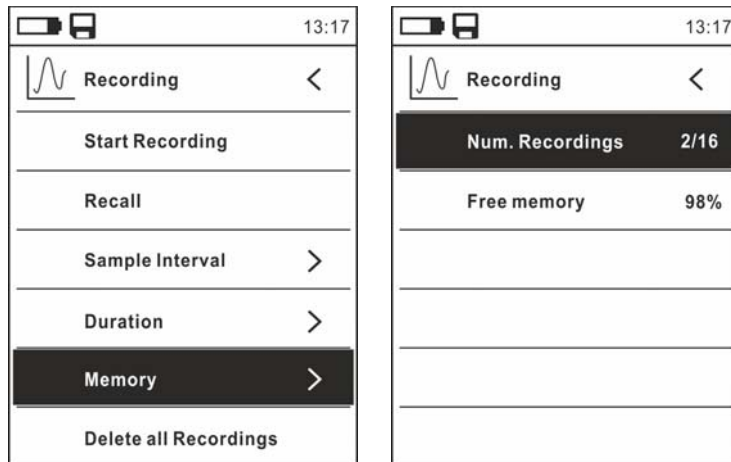

Fig. 37: Data logger function – Content of the memory
23. Select item “Memory” (see Fig. 37 – left side) and press key ►. The screen in Fig. 37 – right side appears on the display.